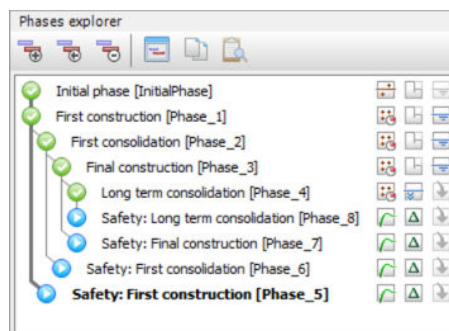

Figure 108: Phases explorer displaying the Safety calculation phases
8. Follow the same steps to create new calculation phases that analyse the stability at the end of each consolidation phase. In addition to selecting **Safety** as calculation type, select the corresponding consolidation phase as the **Start from phase** parameter. The **Phases** explorer displaying the **Safety** calculation phases is shown in Figure 108 (on page 132).